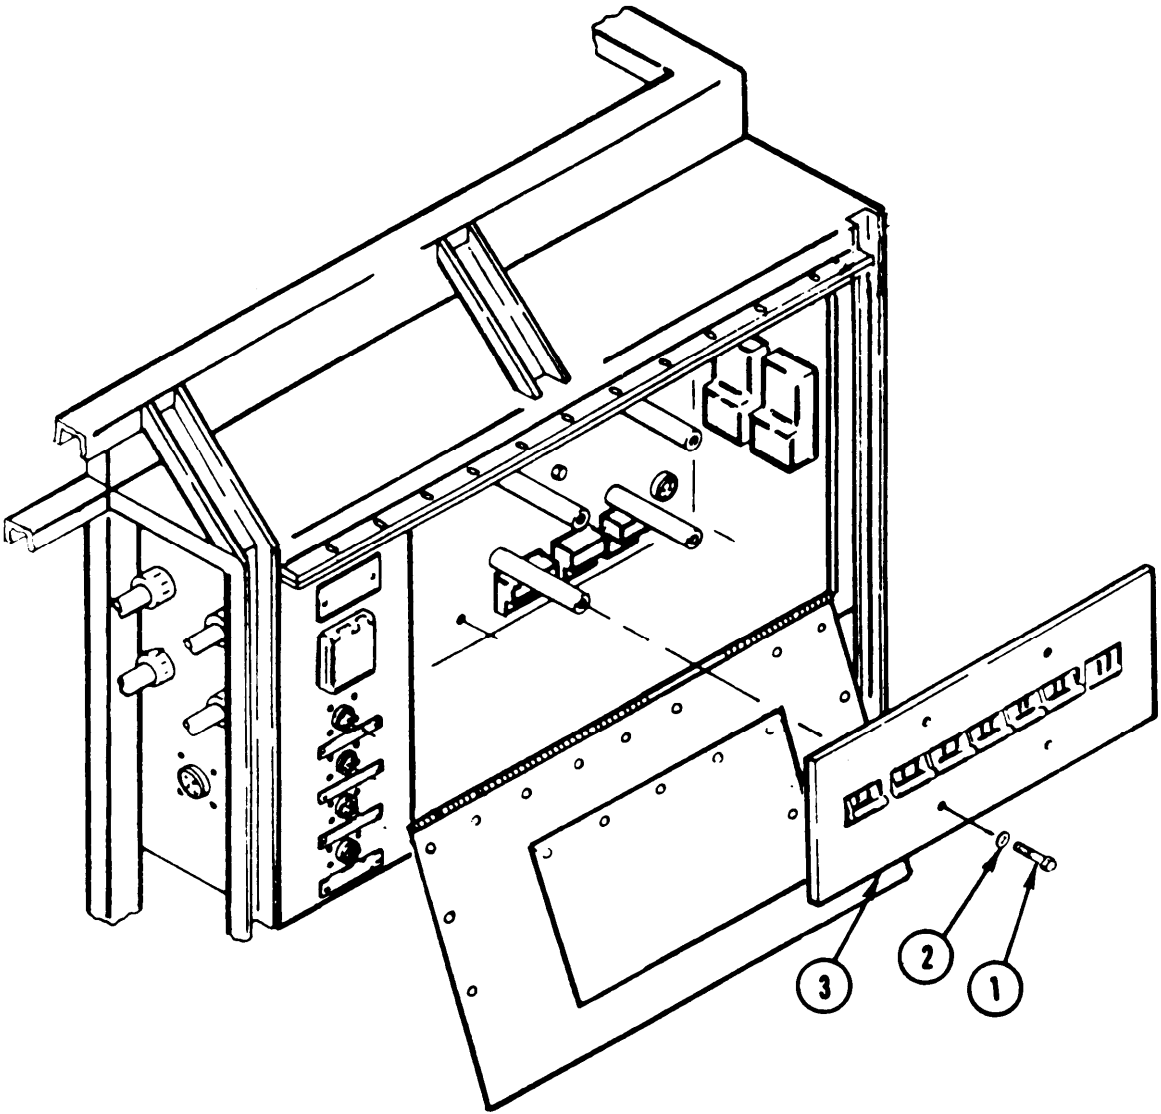

Figure 2-61. Circuit Breaker Plate
- (1) Release thirteen snap-screws and open junction box assembly.
- (2) Remove four bolts (1) (figure 2-61) and four flat washers (2) from junction box assembly and circuit breaker plate (3).